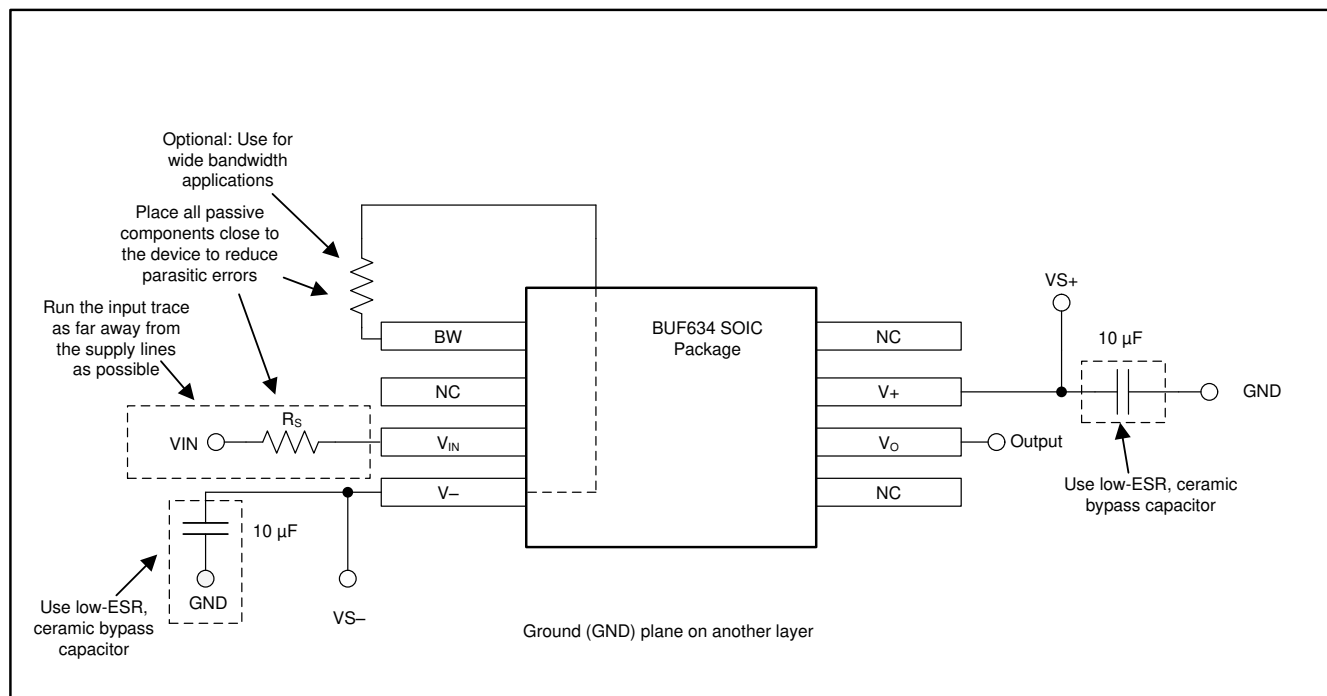

Figure 8-9. BUF634 Layout Example
- Place the external components as close to the device as possible. As illustrated in Figure 8-9